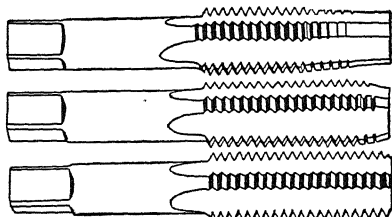

FIG. 174.—Set of hand taps, taper, plug, and bottoming.
**193. Taps.**—Most internal threads are cut with taps, usually in a tapping machine or with a tapping attachment in the drill press. Many threads, however, must be tapped by hand. Figure 174 shows a set of machinist's hand taps squared on the
**194. Tap Sets.**—Hand taps, except the sizes under  $\frac{1}{4}$  in., are made in sets of three taps (see Fig. 174), called taper, plug, and bottoming. The first tap or "taper tap" is tapered or "chamfered" back from the end at least six threads, the plug is chamfered about three or four threads, while the